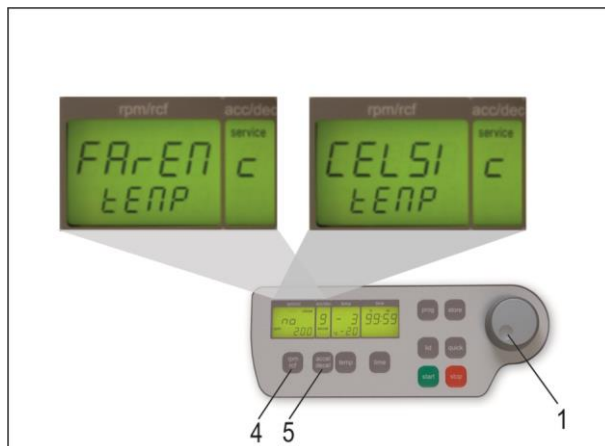

Figure 6
Proceed as illustrated under point 1.8.1. to enter this program mode, press the key "accel/decel" (5). In the display "accel/decel" (A-2) appears the word "service". Select the letter "C". with the adjustable knob (1). As a result appearing in the display "rpm/rcf" (A-1) are the words "CELSI/temp". By pressing the key "rpm/rcf" (4) the word "CELSI" flashes. This allows you to change the display into Fahrenheit "FAREN". with the adjustable knob (1) (see Figure 6).